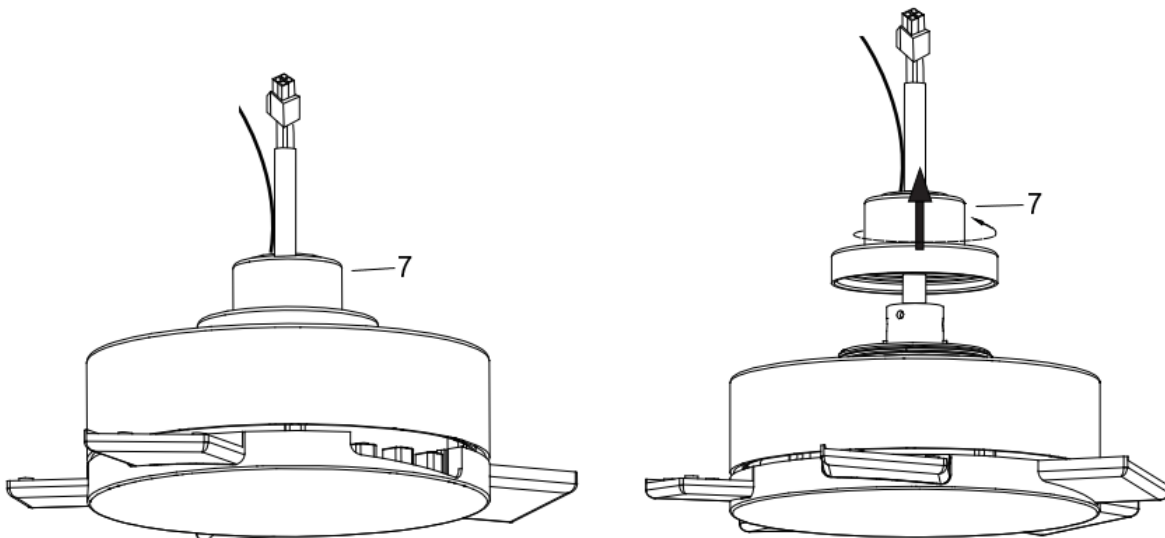

Fig. 4.2
2. Remove the decorative cover (7) from the fan assembly by turning anticlockwise. (Fig. 4.2)